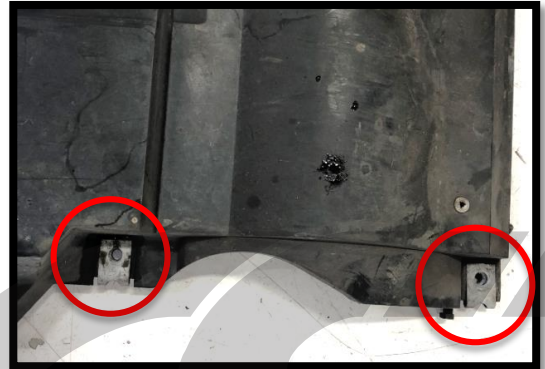

Figure 3a
- a) Locate the four (4) OEM U-nuts attached to the outer sides of the OEM splash shield rear section. Shown **circled in red** in **Figure 3a**.